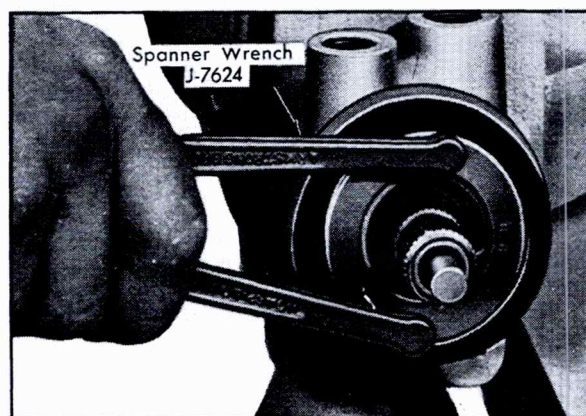

Fig. 9-23 Removing Adjuster Plug
15. Loosen adjuster plug assembly, using Spanner Wrench J-7624, Fig. 9-23, and remove from housing.